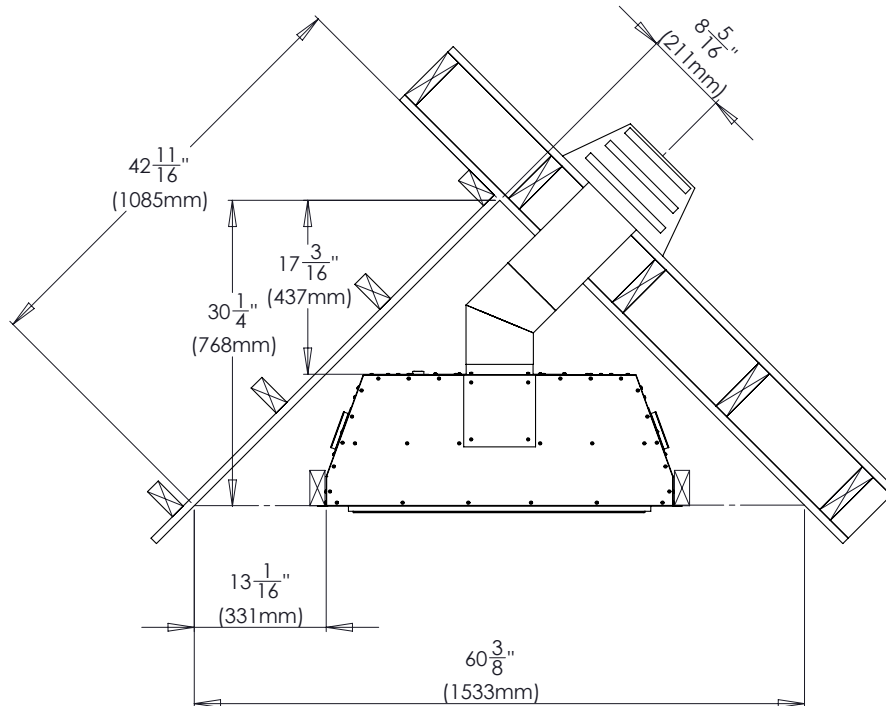

Figure 17. Dimensions for a corner installation, rear vented
Step 1: Using a T-20 screwdriver remove the DV Adaptor, Exhaust Tube, and cover plate (12 screws total) as shown in Figure 17.
The dimensions for installing a fireplace in the corner of a room are given in Figures 17 and 18. Refer to "INITIAL INSTALLATION - ALLOWABLE CO-AXIAL VENT CONFIGURATIONS" for allowable pipe lengths.